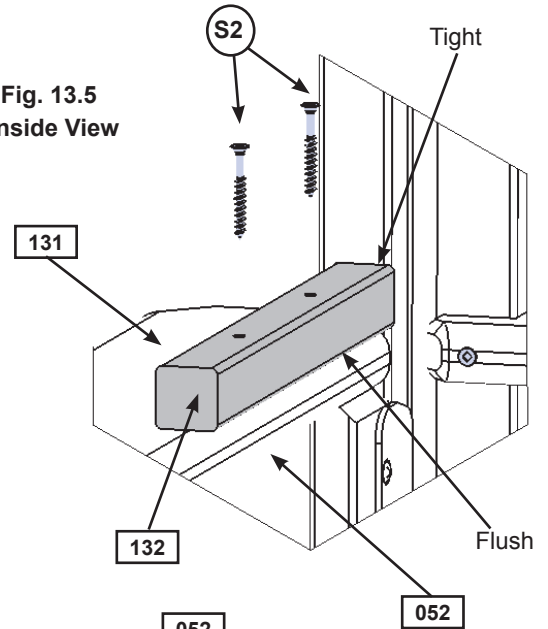

Fig. 13.6
**D:** From inside the assembly place Sky Chalk Wall tight to (132) Chalkwall Block and (052) Back Wall Panel then attach with 4 (S10) #8 x 1" Pan Screws from the inside and 1 (S10) #8 x 1" Pan Screw from the outside. (fig. 13.6 and 13.7)